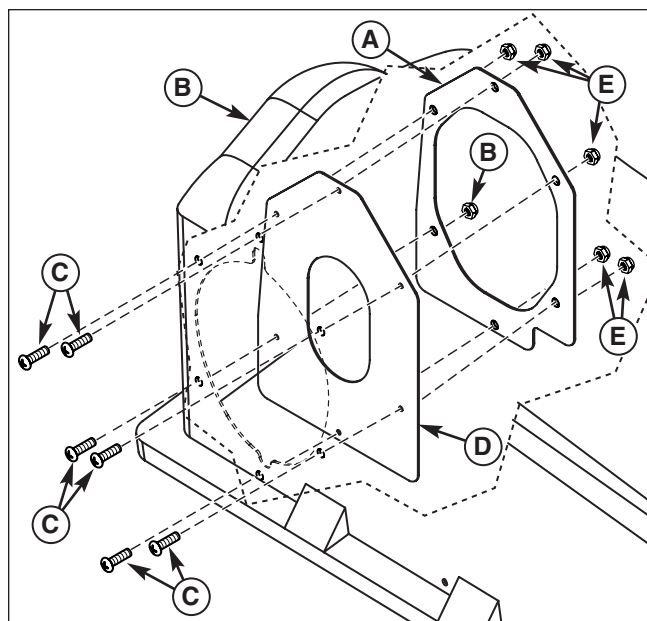

Figure 25. Install Seal and Cover Plate
- Inside grass catcher cover (B, Figure 25) place seal (D), and cover plate (A). Secure using #10-24 x 3/4 screws (C), and #10-24 locknuts (D).